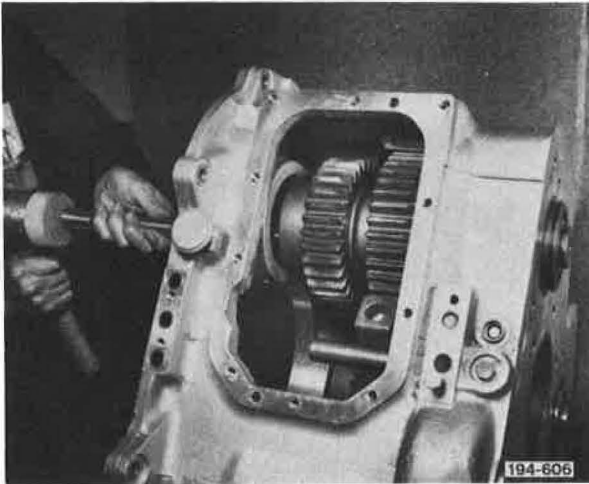

Figure 5-282. Driving Countershaft Rearward
14. Drive rear countershaft rearward, using a suitable driver, to provide access to rear bearing positioning snap ring. See Figure 5-282.